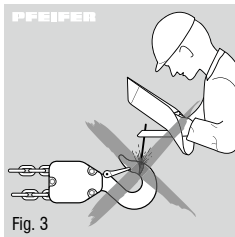

Fig. 3
- Welding on the hook or load chain is forbidden. The load chain must not be used as an earthing connection when welding (Fig. 3).